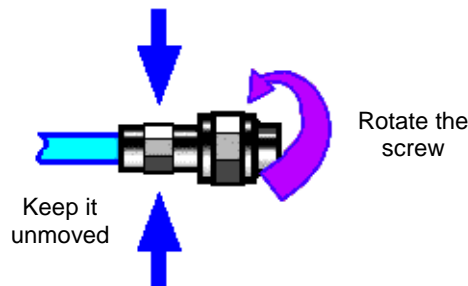

Fig. 2.5 Connection
Step 2. Move the two connectors together in parallel so that they can be joined smoothly. Rotate the connector screw (rather than the connector body) until it is tightened. The connectors should not rotate relative to each other during connection, as shown in Fig. 2.5.